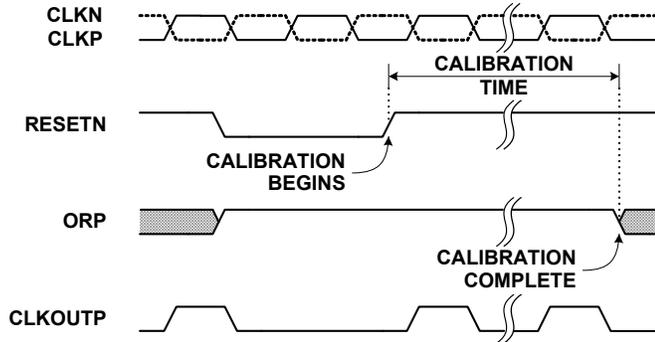

FIGURE 23. CALIBRATION TIMING
The calibration sequence is initiated on the rising edge of RESETN, as shown in Figure 23. The Over-Range (OR) output is set high once RESETN is pulled low, and remains in that state until calibration is complete. The OR output returns to normal operation at that time, so it is important that the analog input be within the converter’s full-scale range to observe the transition. If the input is in an over-range condition the OR pin will stay high, and it will not be possible to detect the end of the calibration cycle.